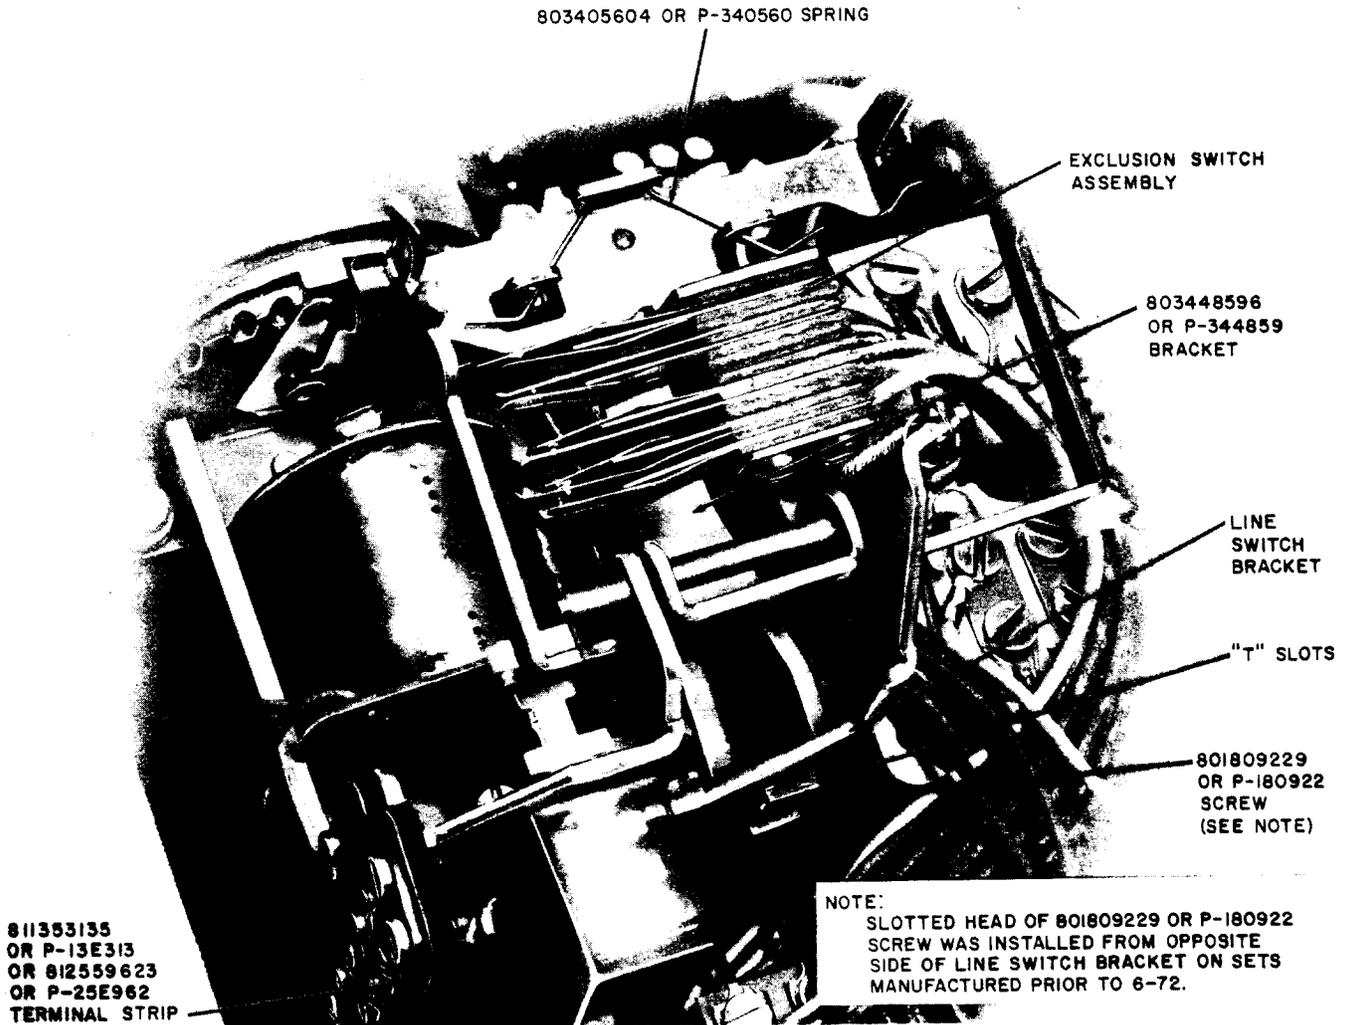

Fig. 6—D-179935 Exclusion Kit, Installed
2.08 Install exclusion kit as follows (Fig. 6):
2.27 These auxiliary terminal strips are attached to the line switch bracket as shown in Fig. 6.